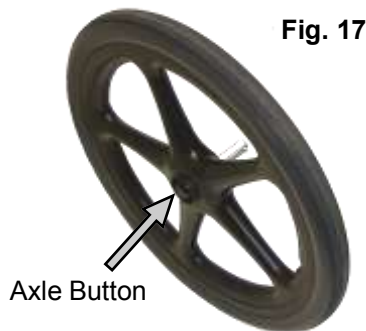

Fig. 17
- To move the wheels into a different location pull outward on the wheel while pressing the axle pin button (fig 17). While still pressing the axle button, insert into new location. Make sure that the axle has fully engaged and will not pull out.